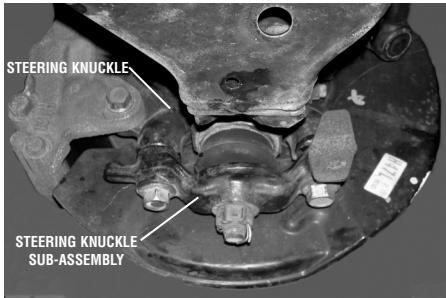

Figure 1
- Remove two bolts from the bottom of the steering knuckle and separate the sub-assembly from the bottom of the steering knuckle (See Figure 1).